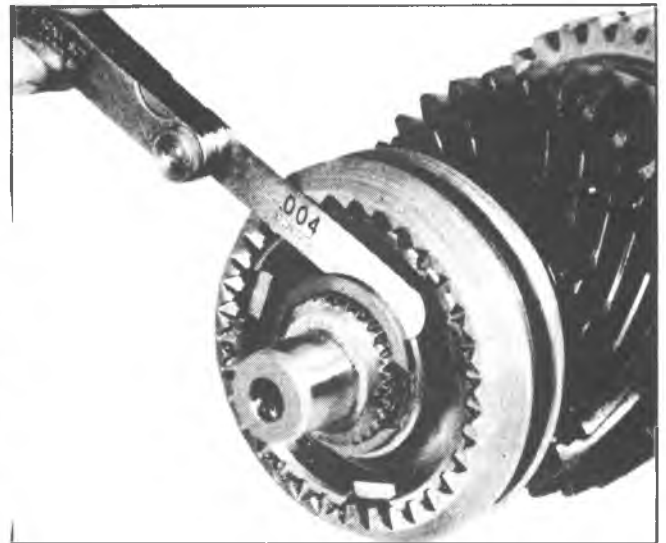

Fig. 7B-20B--Measuring Output Shaft End Play
6. Place second gear blocking ring on tapered surface of gear and install second gear on output shaft with tapered surface of gear facing front of output shaft (Fig. 7B-19B).